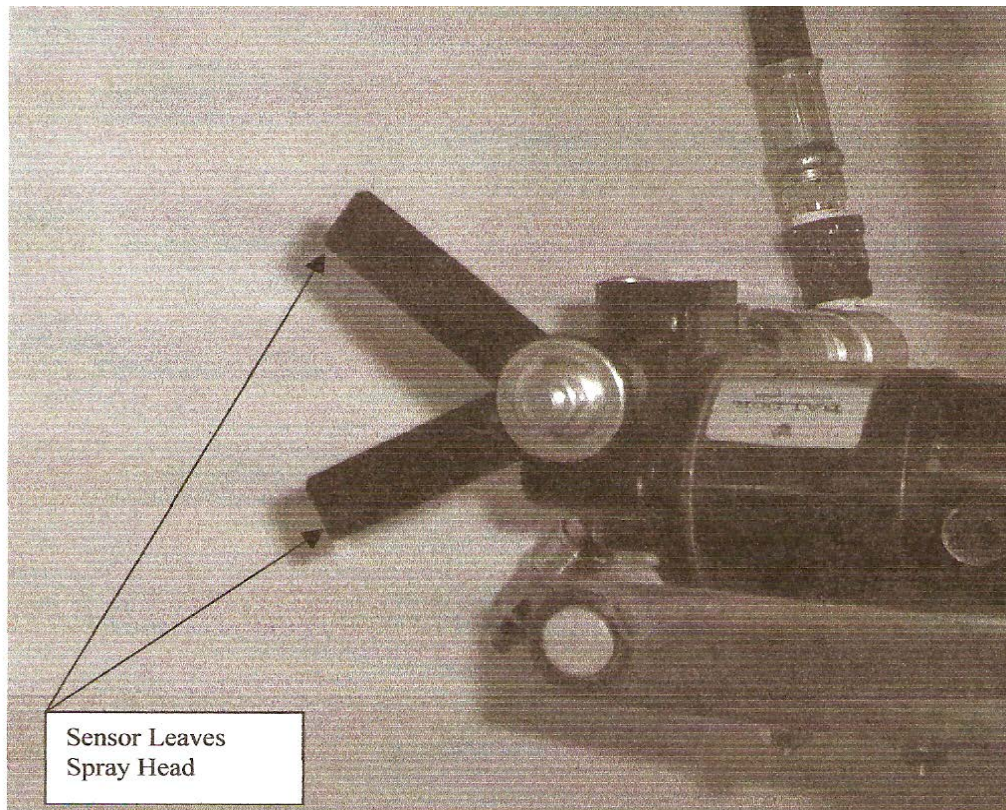

Figure 2.6 Spray Head Sensor Leaves
2.1.8 Set the sensor leaves (sensor leaves are shown in Figure 2.6)